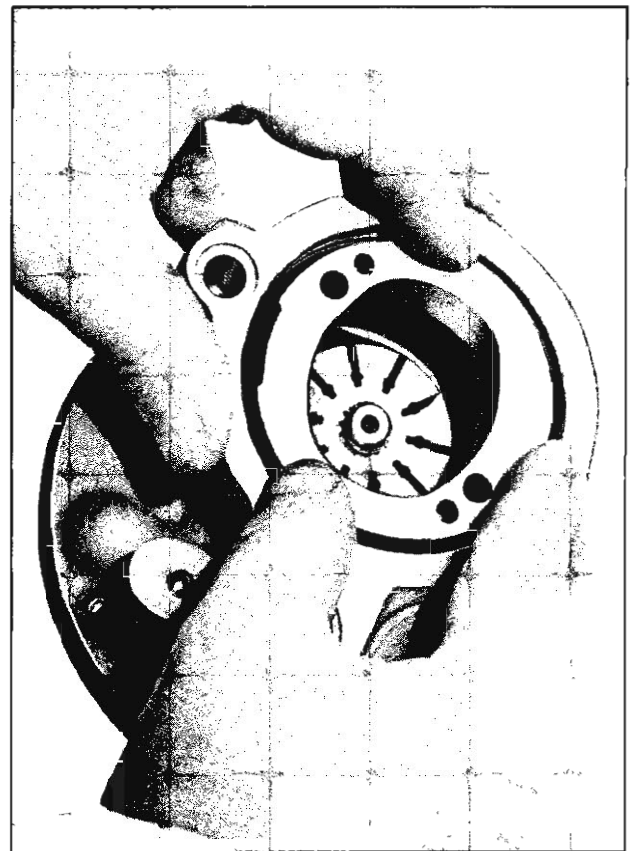

Fig. 71—Installing Pump Ring
5. Install pump ring on dowel pins with direction of rotation arrow to the rear of the pump housing (fig. 71). Rotation is clockwise as viewed from pulley.